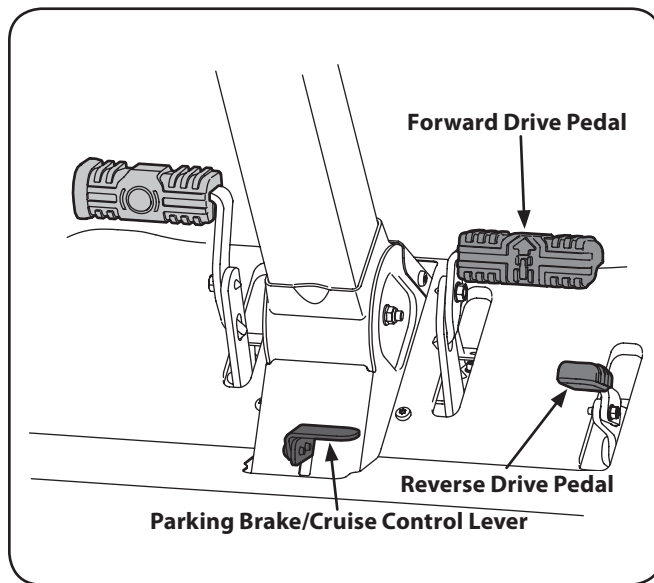

Figure 5-2
2. To travel FORWARD, slowly press the forward drive pedal  forward until the desired speed is achieved. See Figure 5-2.
6. To travel in reverse, check that the area behind is clear then slowly push forward on the reverse drive pedal  with the ball of your foot (NOT your heel) until the desired speed is achieved. See Figure 5-2.